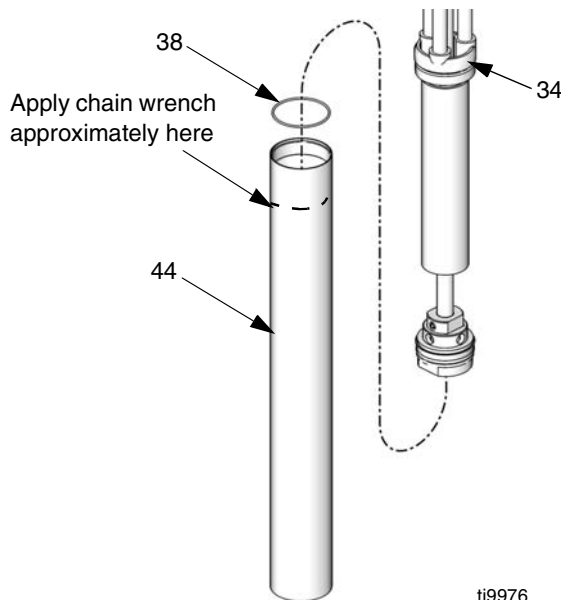

FIG. 19
5. Remove suction tube (44) from pump body (34). See FIG. 19.
6. Inspect o-ring (38) on pump body and suction tube for damage. See FIG. 19.